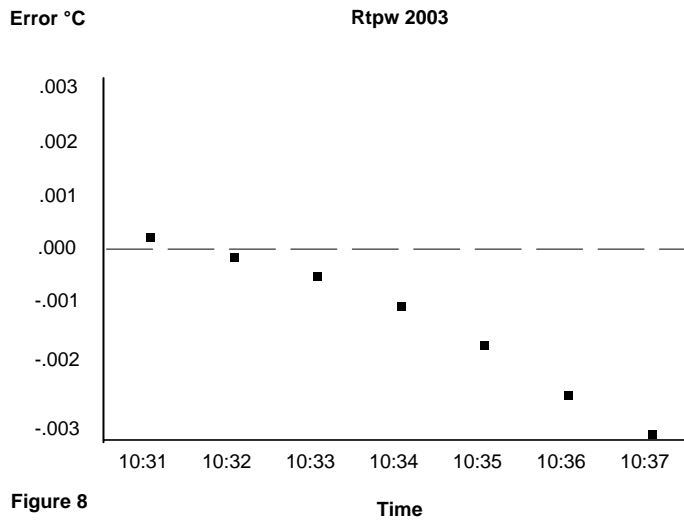

Figure 8
- 5.7 The R_{tpw} in Figure 8 shows a continuous downward drift. This problem can easily be seen while SPRT is trying to stabilize at the triple point of water. A faulty seal, allowing condensation to collect on the sensor and lead wires, can cause this. Since the moisture is conductive, this causes a decrease in the resistance.